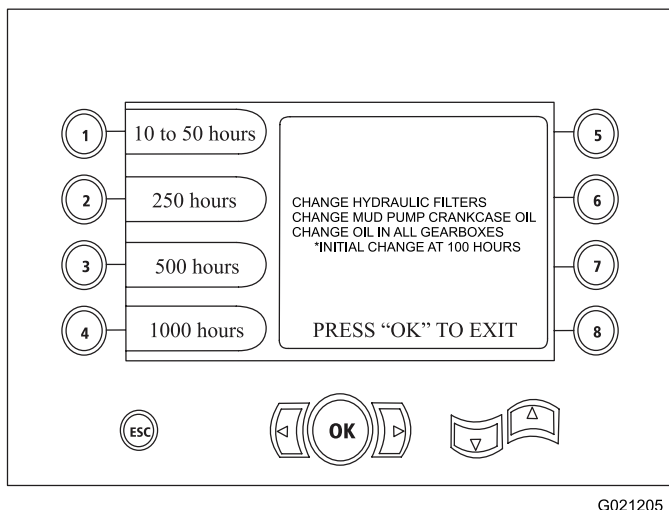

Figure 26
- Button 3—500-hour maintenance schedule (Figure 26)